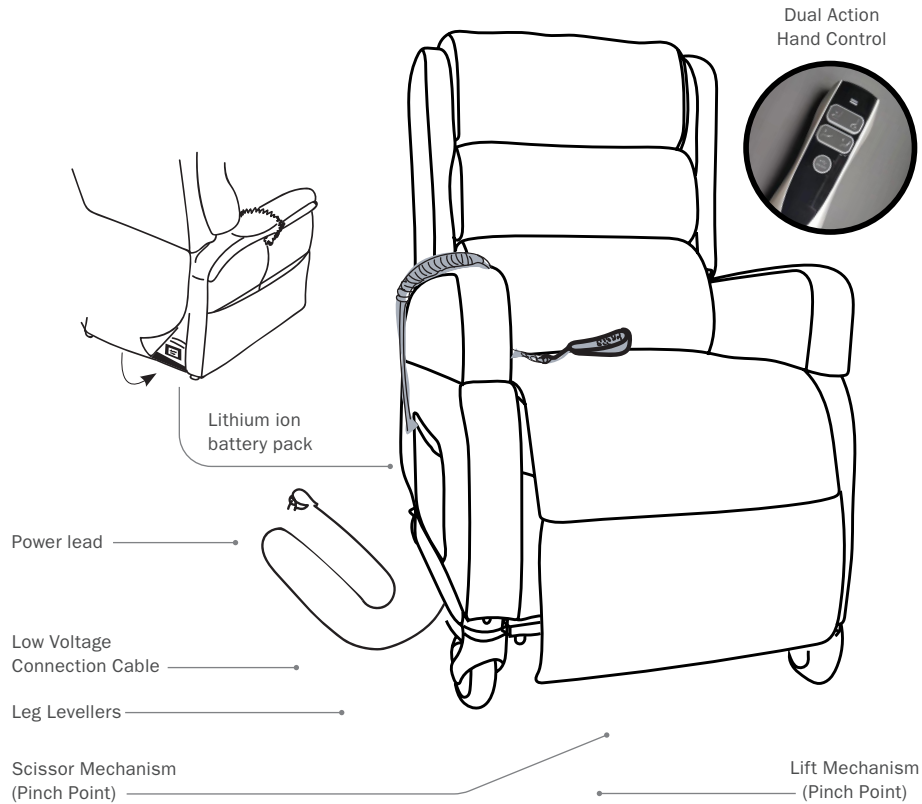

Figure 3.2 Tente castor operation
2. It is recommended that all castors are locked when the chair is stationary, and unlocked when transporting the user (Fig. 3.2).